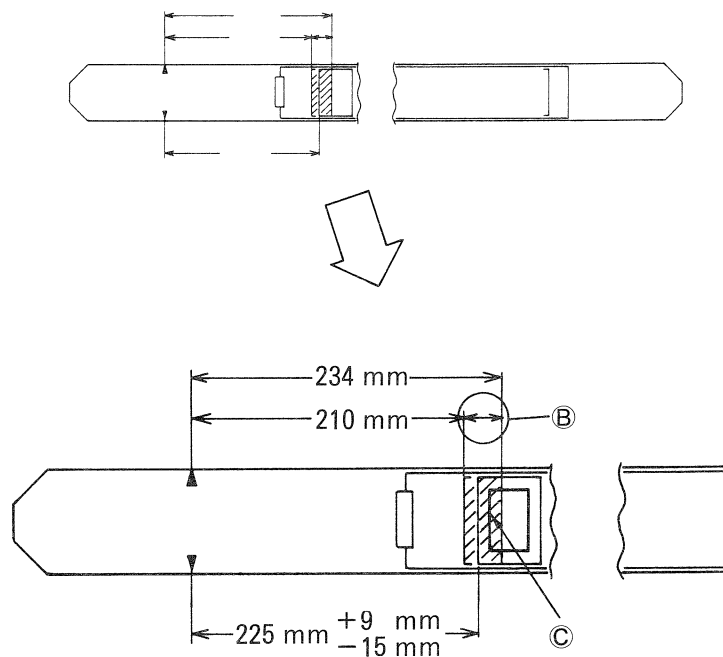

Fig. 99
1. Mark the allowable range on the film by a ball point pen (Fig. 99) and load the film into the Insert and attach the RFH with film loaded to camera body.